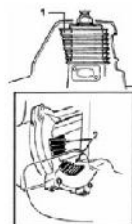

Fig.E18
1. Remove all dirt and debris from the engine, check the cooling fins and air cleaner for clogging, and clean as necessary. See Fig.E18